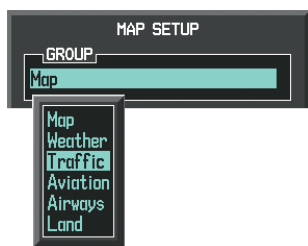

Figure 6-106 Navigation Map Page Setup Menu
- 4) Turn the small **FMS** Knob to select the Traffic Group and press the **ENT** Key (Figure 6-106).